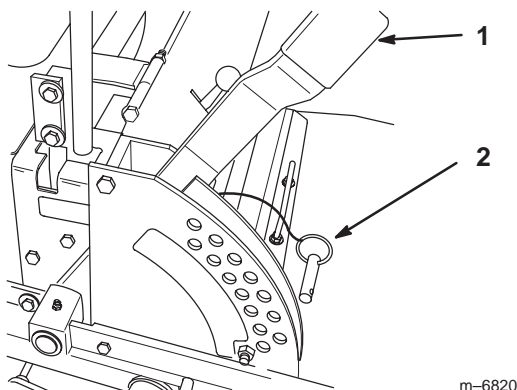

Figure 17
1. Raise the height-of-cut lever to the transport position (also the 5 inch (127 mm) cutting height position) (Fig. 17).
2. To adjust, remove the clevis pin from the height-of-cut bracket (Fig. 17).
3. Select a hole in height-of-cut bracket corresponding to the height-of-cut desired and, insert clevis pin (Fig. 17).